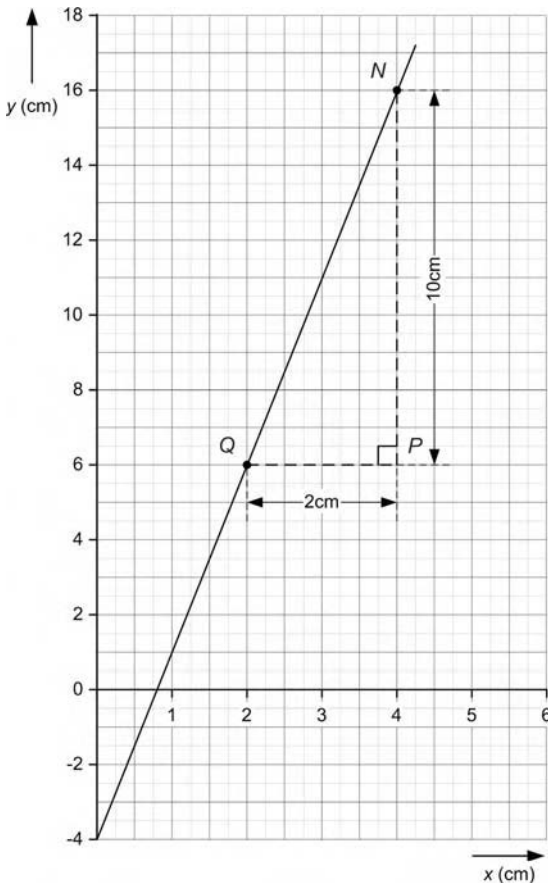

Figure 2.9 Figure for Example 2.46, question 1.
1. Find the law of the straight line illustrated in Figure 2.9.